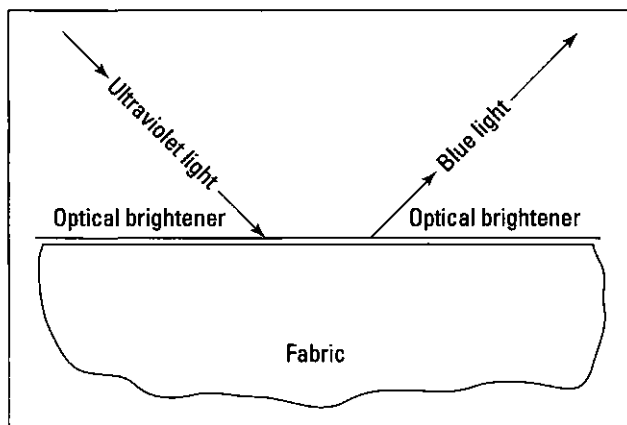

Figure 17-3:
- ✓ **Optical brighteners:** These compounds are used to make white clothes appear extra clean and bright. These very complex organic compounds deposit themselves as a thin coating on the clothes. They absorb ultraviolet light and re-emit it as a blue light in the visible part of the spectrum. This process is shown in Figure 17-3.